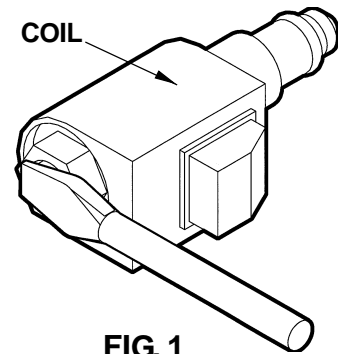

FIG. 1
1. Check if Solenoid Valves are constantly energized by touching a screwdriver to the top nut of the Solenoid (**FIG. 1**). Try pulling the screwdriver away from the solenoid. If the solenoid nut attracts the screwdriver (magnetically) without pushing the toggle switch, the control circuit is operating incorrectly. Check if toggle switch, wiring or coil are faulty.